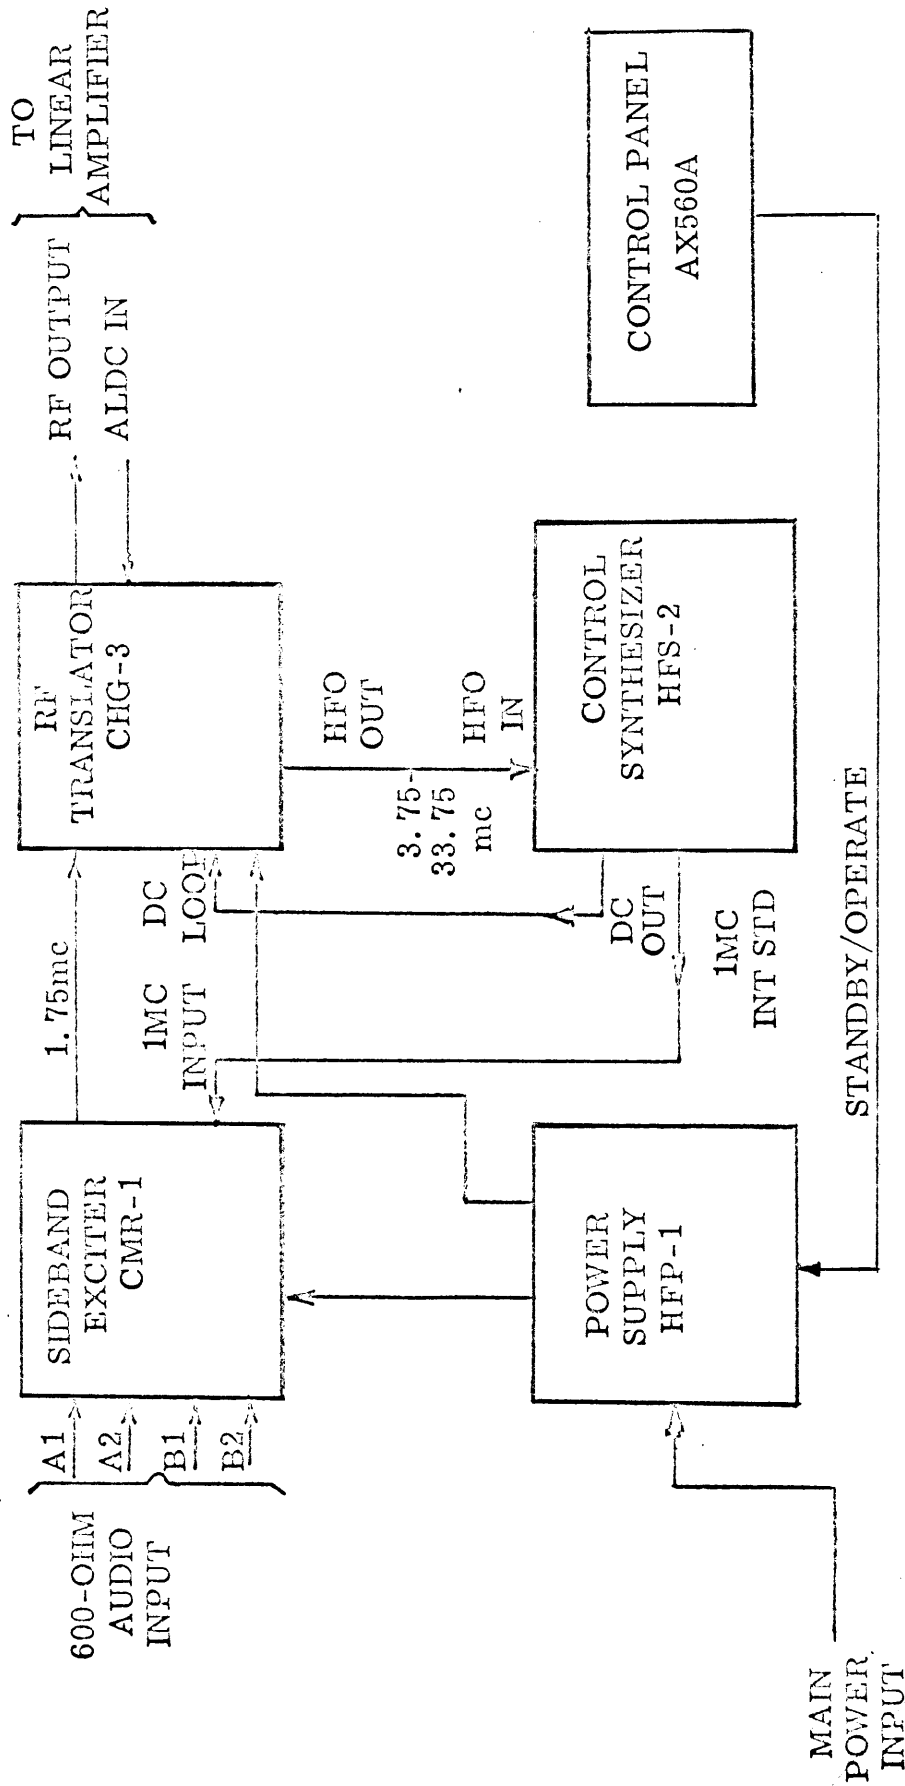

Figure 4-1. Block Diagram, Exciter
a. EXCITER SECTION (figure 4-1) - The Sideband Exciter CMR provides the primary stage of frequency conversion and frequency division multiplexing for the SBT four-channel independent sideband transmitting system. The CMR accepts up to four 600-ohm audio input signals. The four signals are processed separately by independent amplification, modulation, filtering and gain control circuits (channels A1, A2, B1 and B2). The outputs of each of these channel circuits are then combined to yield an independent sideband output that is centered at a frequency of 1.75 mc.